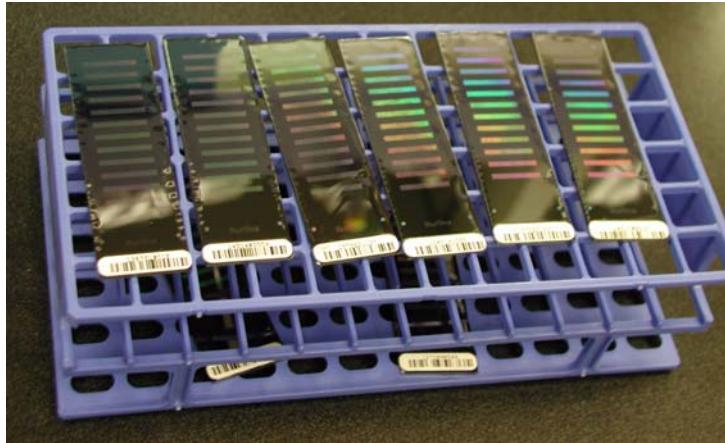

Figure 160 BeadChips on Tube Rack
- a. Place the tube rack with the first 8 BeadChips (Figure 160) into the desiccator. Check the vacuum pressure and make sure that the valve is securely attached.
- Put the eight BeadChips on the tube rack as shown in Figure 160, with six BeadChips on top of the rack and two BeadChips on the bottom. The barcode ends should be towards you, and the BeadChips should be completely horizontal.
28. Place BeadChips on the tube rack (Figure 160) until there are six BeadChips on top of the rack and two BeadChips on the bottom. The barcode ends should be towards you, and the BeadChips should be completely horizontal.
- a. Place the tube rack with the second set of 8 BeadChips (Figure 160) into the desiccator. Check the vacuum pressure and make sure that the valve is securely attached.
- b. Place BeadChips on the tube rack as shown in Figure 160 until there are six BeadChips on top of the rack and two BeadChips on the bottom. The barcode ends should be towards you, and the BeadChips should be completely horizontal.
- a. Place the tube rack with the **third set of 8** BeadChips (Figure 160) into the desiccator. Check the vacuum pressure and make sure that the valve is securely attached.